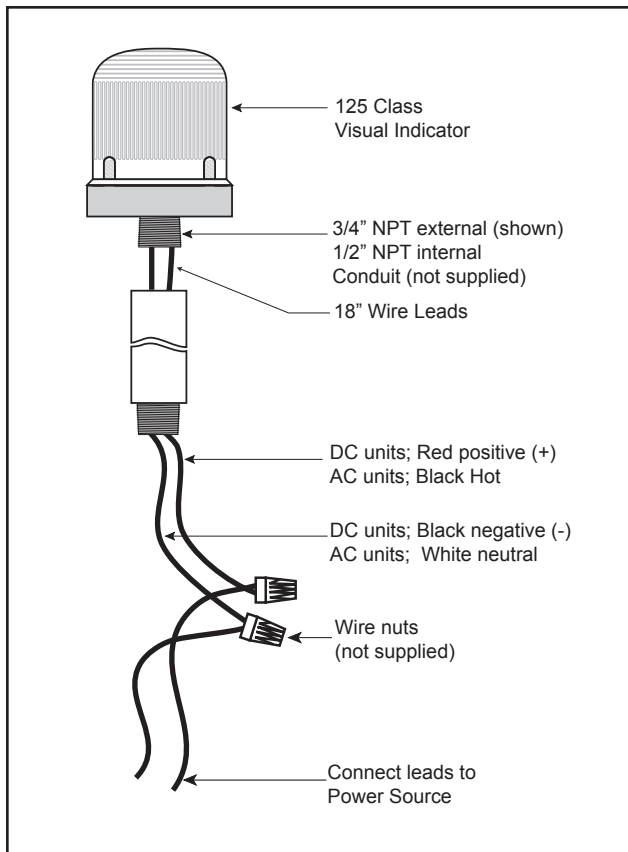

Figure 1. Conduit Mounting (3/4" Shown)
Conduit Mounting (Figure 1)
3. Using wire nuts (not supplied), connect the signal's wire leads as shown in Figure 1. Polarity must be observed for DC models. For AC models, polarity is not important.
1. **Conduit Mounted Modules:** Disconnect wiring and, if necessary, unscrew base from conduit (Figure 1).